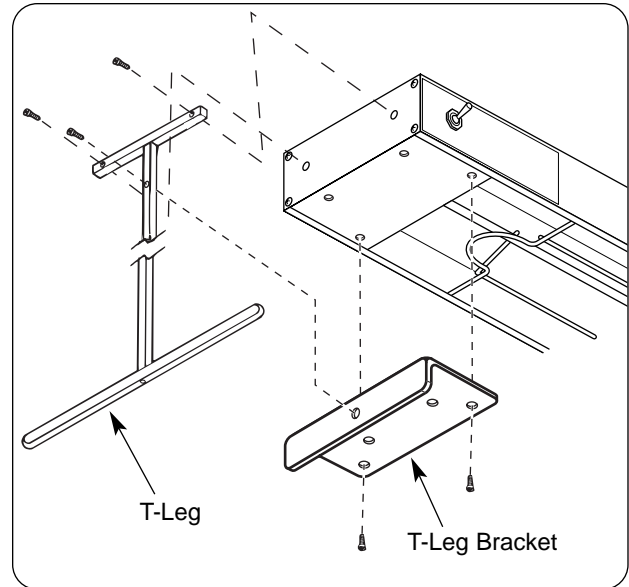

Figure 13. T-Leg Stand End Mounting
6. Align the mounting hole on the T-Leg bracket with the hole on the mounting bracket and secure with a screw. (See Figure 13.)